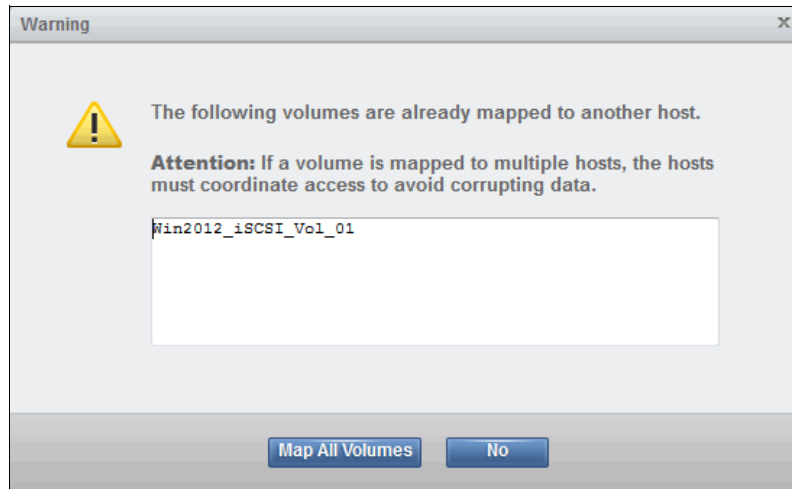

Figure 8-10 Volume mapped to multiple hosts warning
11. If you map a volume to multiple hosts, a warning is displayed, as shown in Figure 8-10.